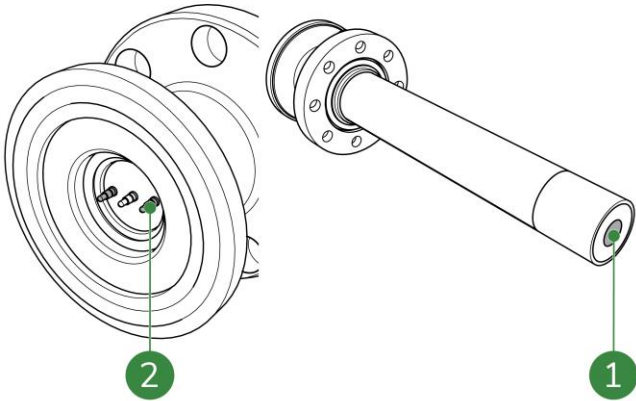

Figure 9-3: O-rings
7. Measure the resistance of the sensor. The resistance must be lower than 50 ohms. Measure between the outer connection point and the end of the sensor (Figure 9-3, pos. 1 and 2).